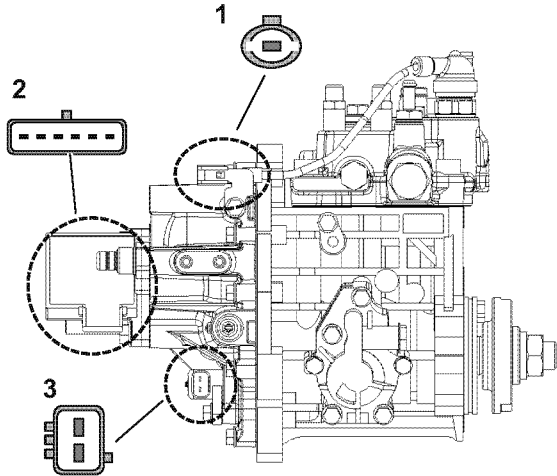

Figure 7-7
10. Remove the solenoid valve connector (1, **Figure 7-7**), rack actuator connector (2, **Figure 7-7**), and engine speed sensor connector (3, **Figure 7-7**).